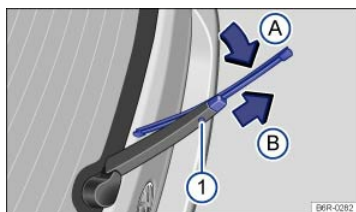

Fig. 170 Changing the rear window wiper blades.
- Press and hold the release button ⇒ Fig. 170 !.
- While lifting the wiper blade in the direction of the wiper arm ⇒ Fig. 170 (arrow A), pull off the wiper blade in the direction of the arrow B. This may require moderate force.
- Install a new wiper blade of the **same length and type** onto the wiper arm by pushing in the opposite direction of the arrow ⇒ Fig. 170 B until it latches.